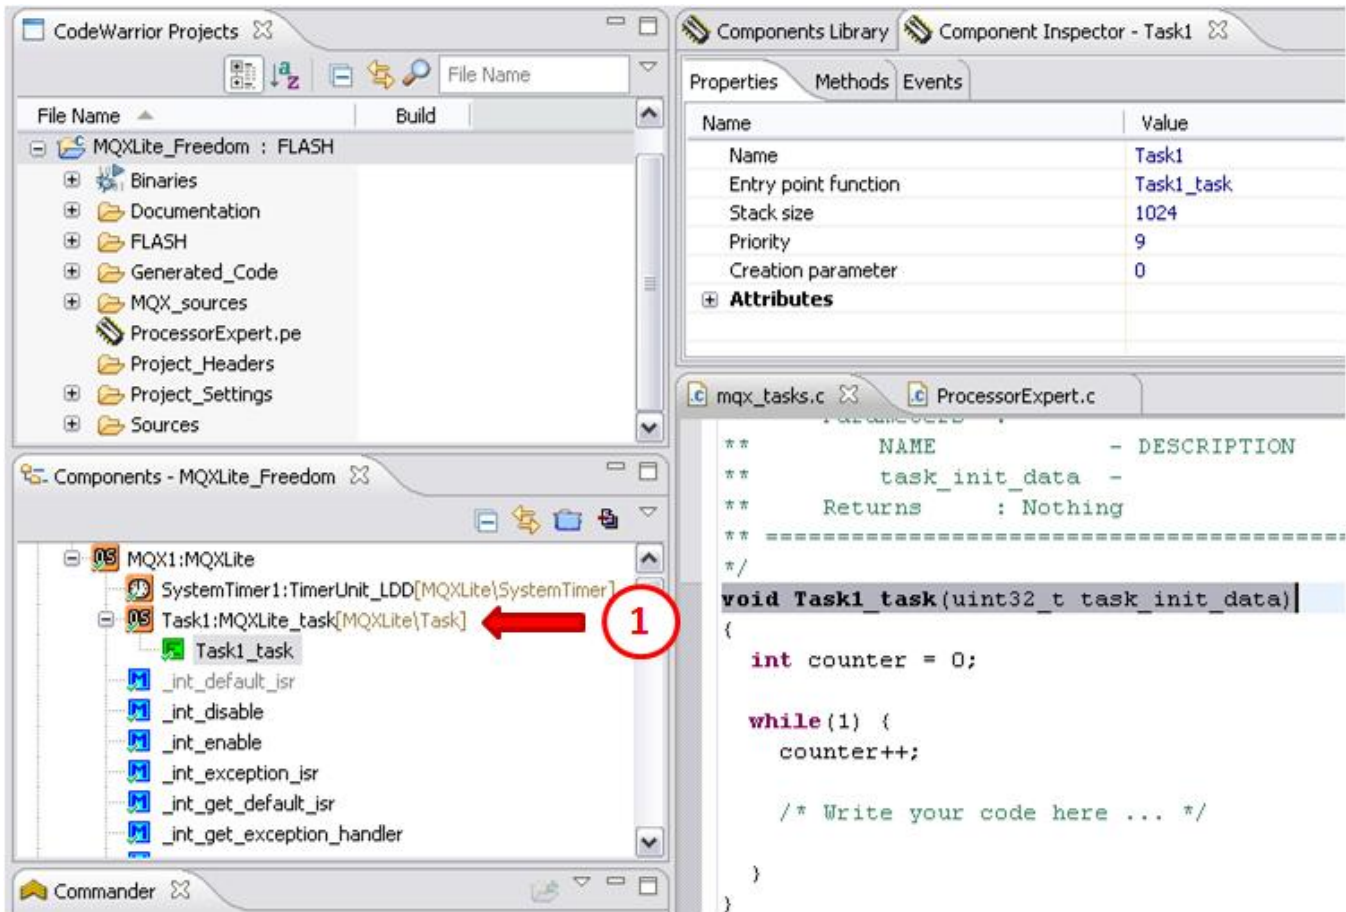

Figure 29. Default first MQXLite task
10. By default, when the MQXLite component is added a task is also included in this component. To identify where the default task is located see Figure 29.